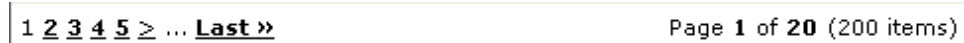

Figure 8.29 - Pages
- The data in some reports may span several **pages**. In these cases, the report displays a line that looks like Figure 8.29, at the bottom of the report body.